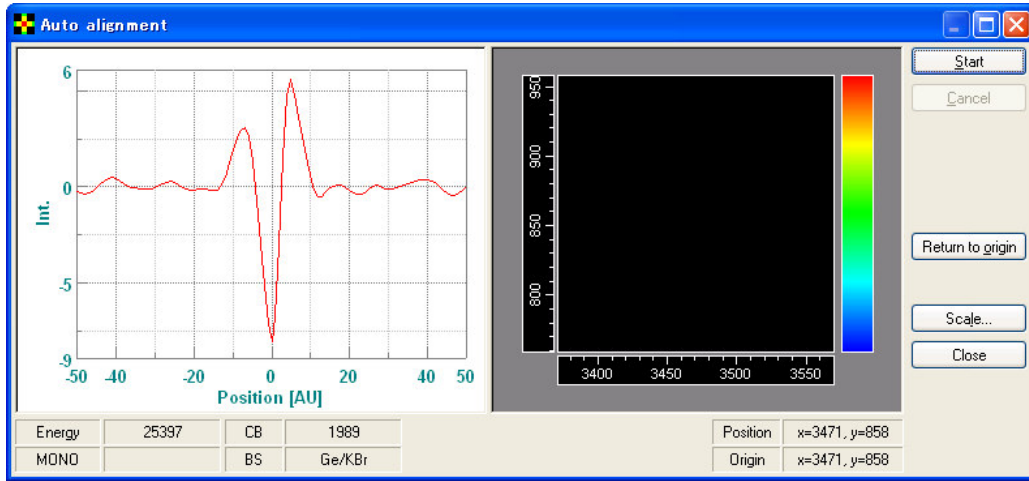

Fig. 4.18 [Auto Alignment] dialog
The [Auto Align...] function automatically aligns the fixed mirror to the optimum position where maximum energy is obtained with the interferometer (Fig. 4.18). This function should be used when the energy from the interferometer has decreased for any reason, such as when the spectrometer is moved, has not been used for an extended period of time, or when the beam splitter (BS) of the interferometer has been changed to access another spectral region. Refer to the FT/IR-6000 hardware manual for details on changing the instrument beam splitter.